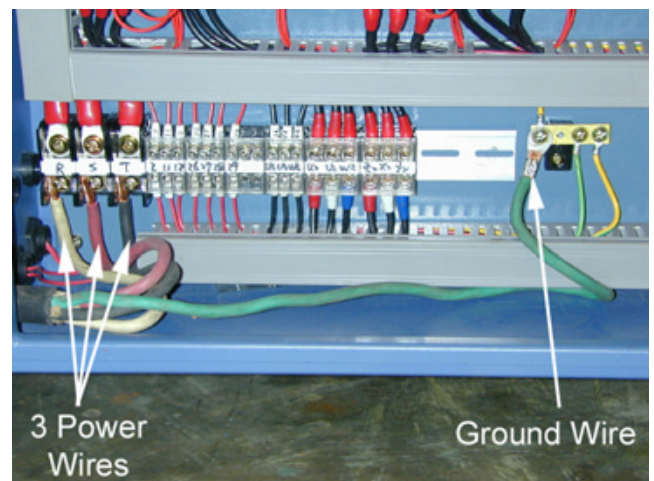

Figure 9
4. The properly installed electrical cable should look like **Figure 9**.